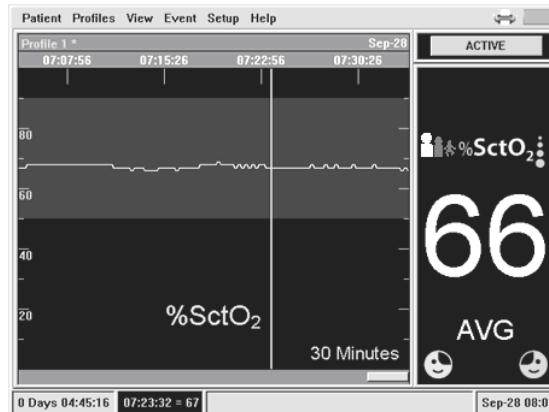

Figure 34: Vertical Position of Event Mark
- 1 Turn the rotary control knob left or right to position the vertical line correctly on the trace (see Figure 34, below).